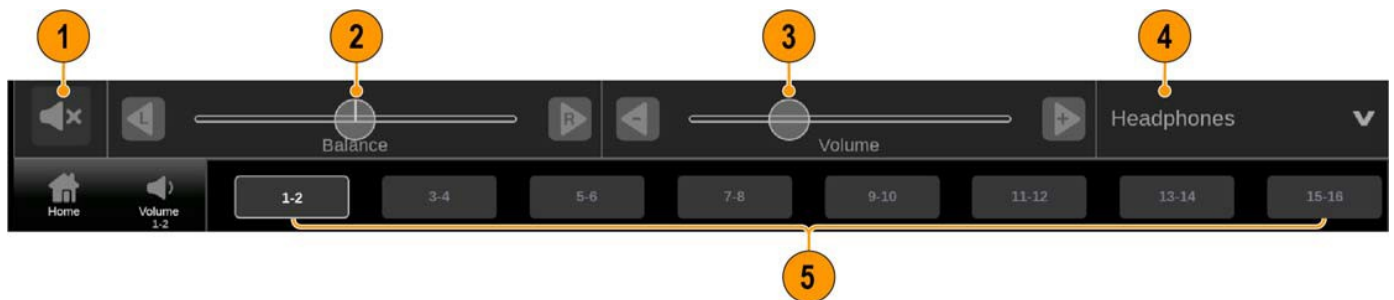

Figure 78: Mute, balance, volume, device, and source controls
1. Select the volume icon. (See Figure 78.)